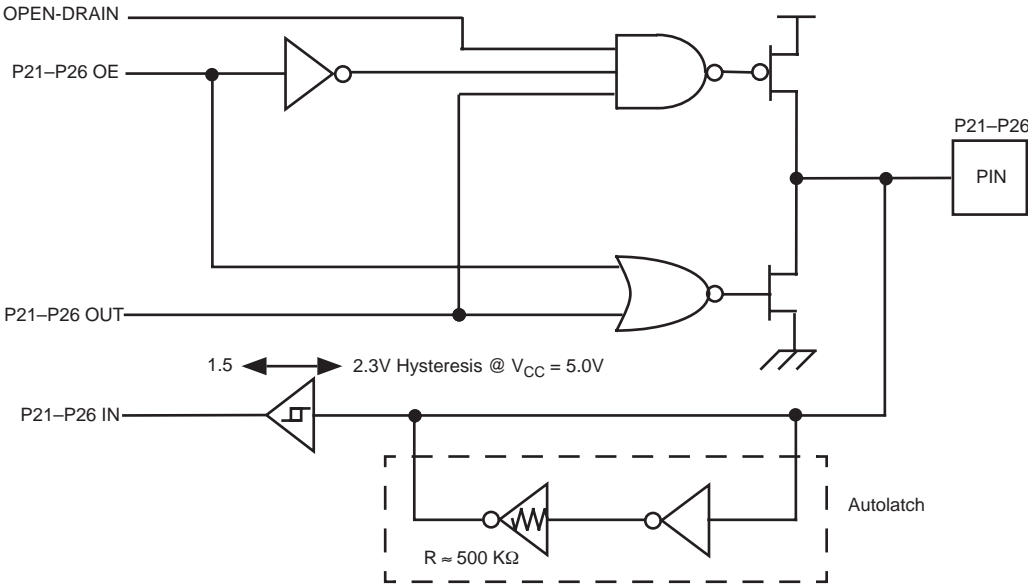

Figure 39. Port 2 Configuration with Open-Drain Capability, Autolatch, and Schmitt-Trigger
Port 2 can be an 8-bit, bidirectional, CMOS- or TTL- compatible I/O port. These eight I/O lines can be configured under software control to be an input or output, independently. Input buffers can be Schmitt-triggered, level-shifted, or a single trip point buffer and may contain autolatches. Bits programmed as outputs may be globally programmed as either push-pull or open-drain. Low-EMI output buffers can be globally programmed by the software, an OTP program option, or as a ROM mask option. In addition, when the SPI is featured and enabled, P20 functions as data-in (DI), and P27 functions as data-out (DO). Please refer to specific product specifications for exact input/output buffer type features available. See Figures 39 through 41.